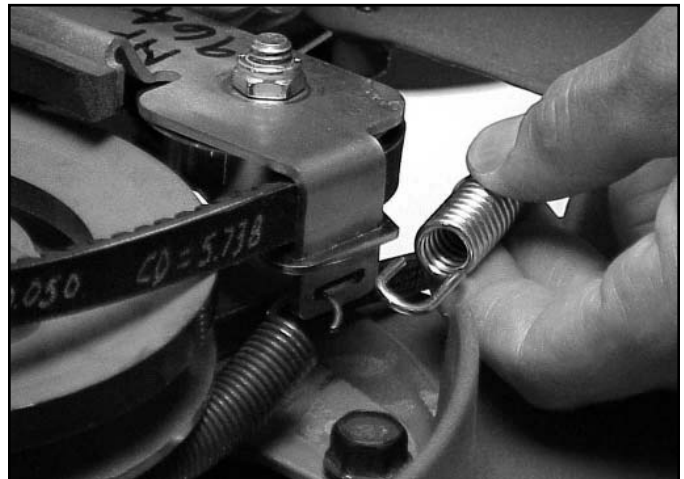

Fig 210
7. Unhook both springs from the slot in the brake arm (Fig. 210).